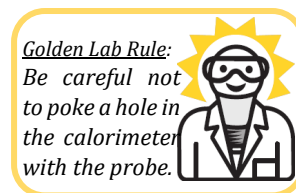

Figure 3. Ice slush.
- c. Create an ice slush in the 250-mL beaker: fill the beaker with ice and add just enough water to produce a slush (see Fig. 3). The goal **IS NOT** to make ice water, but to make packed ice with water between the pieces of ice.